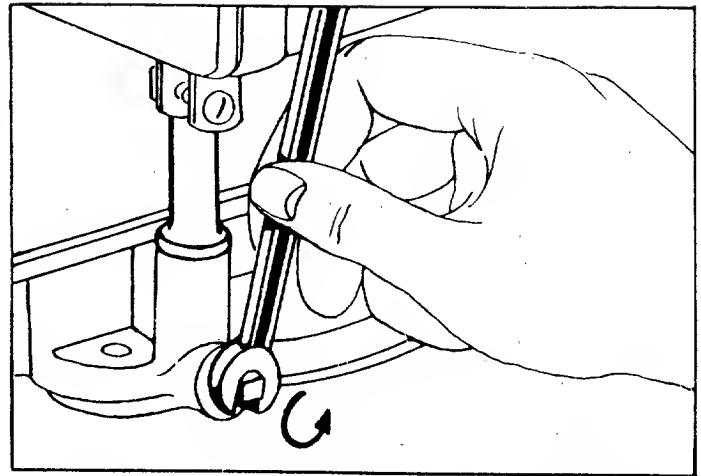

FIGURE 17. OIL DRAIN
After the first five hours of operating a new engine, drain the oil (See figure 17.) from the crankcase while engine is still hot and refill crankcase with new oil; thereafter change the oil every 25 hours of operation. This procedure ensures for minimum wear of engine parts and provides for virtually trouble-free operation. To change the oil, proceed as follows:
- Step 1. With the machine on level ground, place a suitable metal container under the oil drain plug, then remove the drain plug. See figure 17.